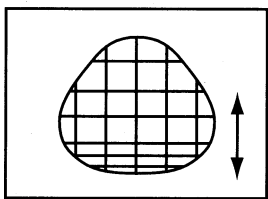

Fig. 4
- Adjust the vertical symmetry to obtain symmetrical scanning between upper and lower picture (fig. 4).